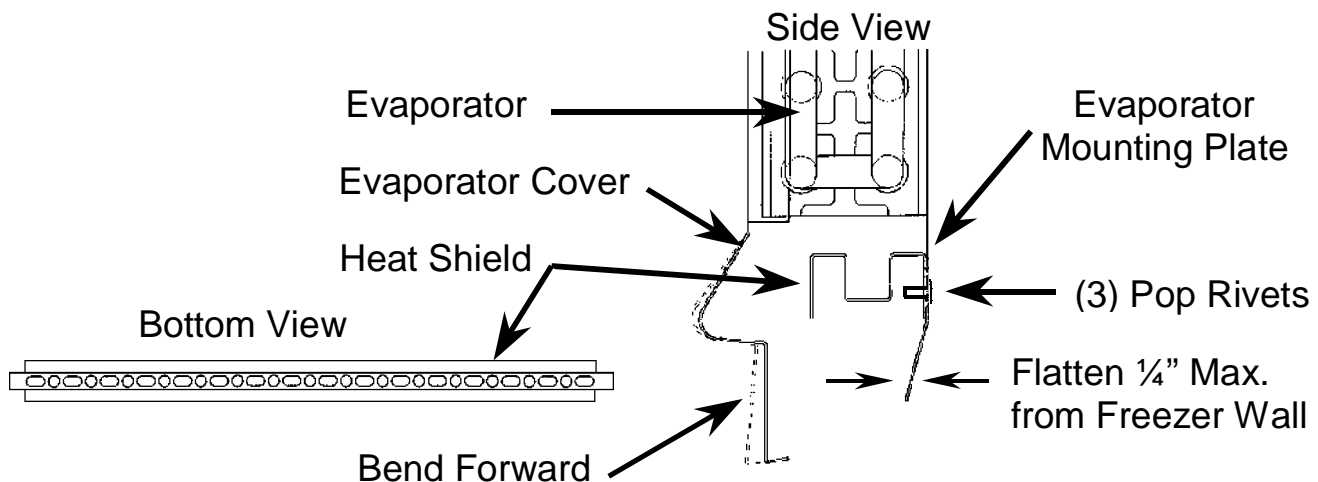

FIGURE 2
- b) Using a side cutter cut the inside part of the (3) pop rivets that secure the heat shield to the evaporator mounting plate. Remove and discard existing heat shield.
- c) Flatten the bottom section of evaporator mounting plate to at least $\frac{1}{4}$ " from the back freezer wall. See Figure 2.
- d) Install the new heat shield using (3) aluminum pop-rivets (included). **NOTE:** If a pop rivet tool is not available, small aluminum or stainless steel screws (obtained locally) can be used. Do not use steel screws. They will rust.
- e) Re-install heater element into the new heat shield using the (2) nylon ties.
- 6) Bend forward the bottom section of the evaporator cover approximately 30° but not to protrude past unit drain trough. See Figure 2.